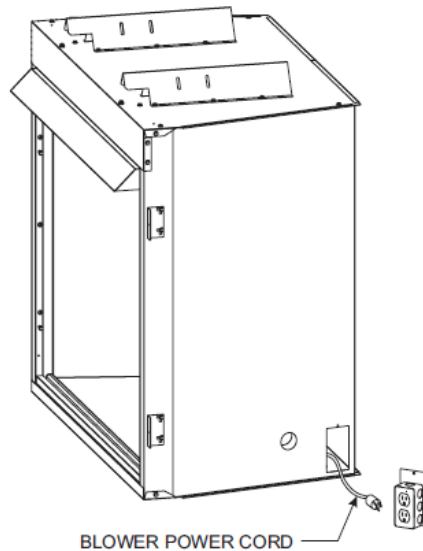

Figure 17
11. To complete the installation, plug the power cord into the junction box receptacle at the right rear corner of the firebox outer wrap. See Figure 17.